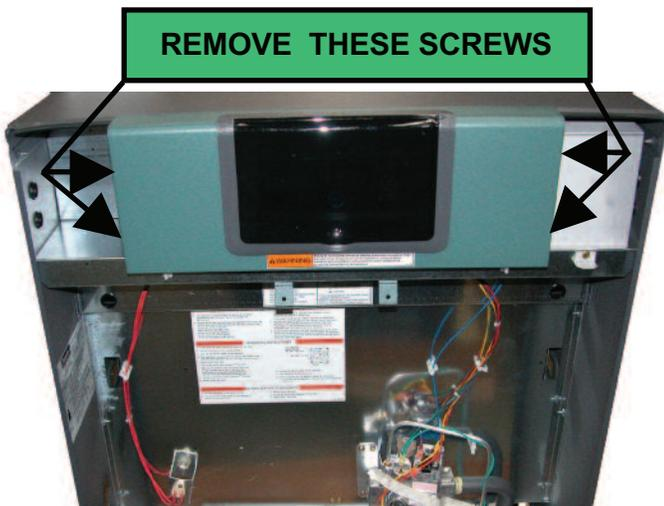
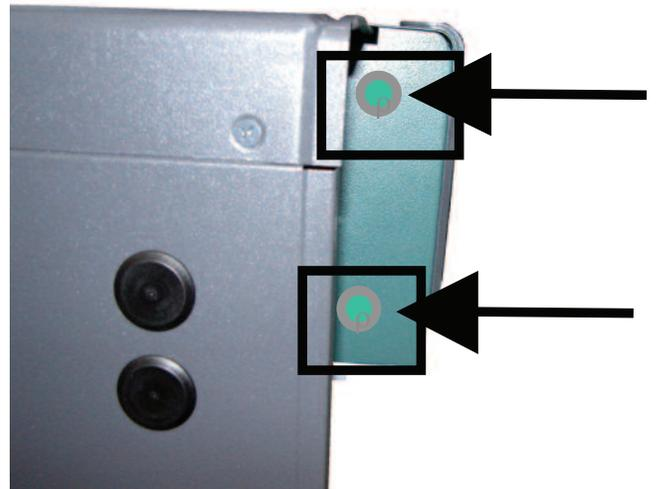

Fig. 3
Fig. 4
5. Remove the four screws on the side of control panel. See **Fig. 3** and **Fig. 4**.